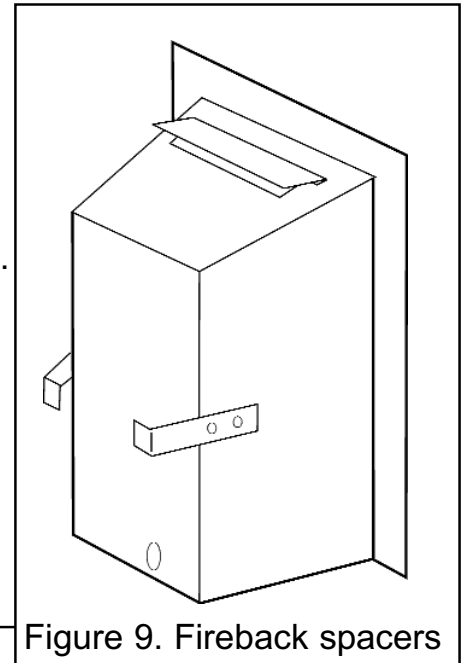

Figure 9. Fireback spacers
5. The appliance is supplied with two fireback spacers. **Do not fit the fireback spacers if the fire is to be installed into a precast or clay flue block system as in section 4.2.4.** These should extend backwards to ensure sufficient clearance from the back of the fireplace. Remove the label and retaining screws from the rear sides of the hotbox. Position the fireback spacers as shown in figure 9. Secure the fireback spacers using the screws removed previously, and the two supplied with the fire.